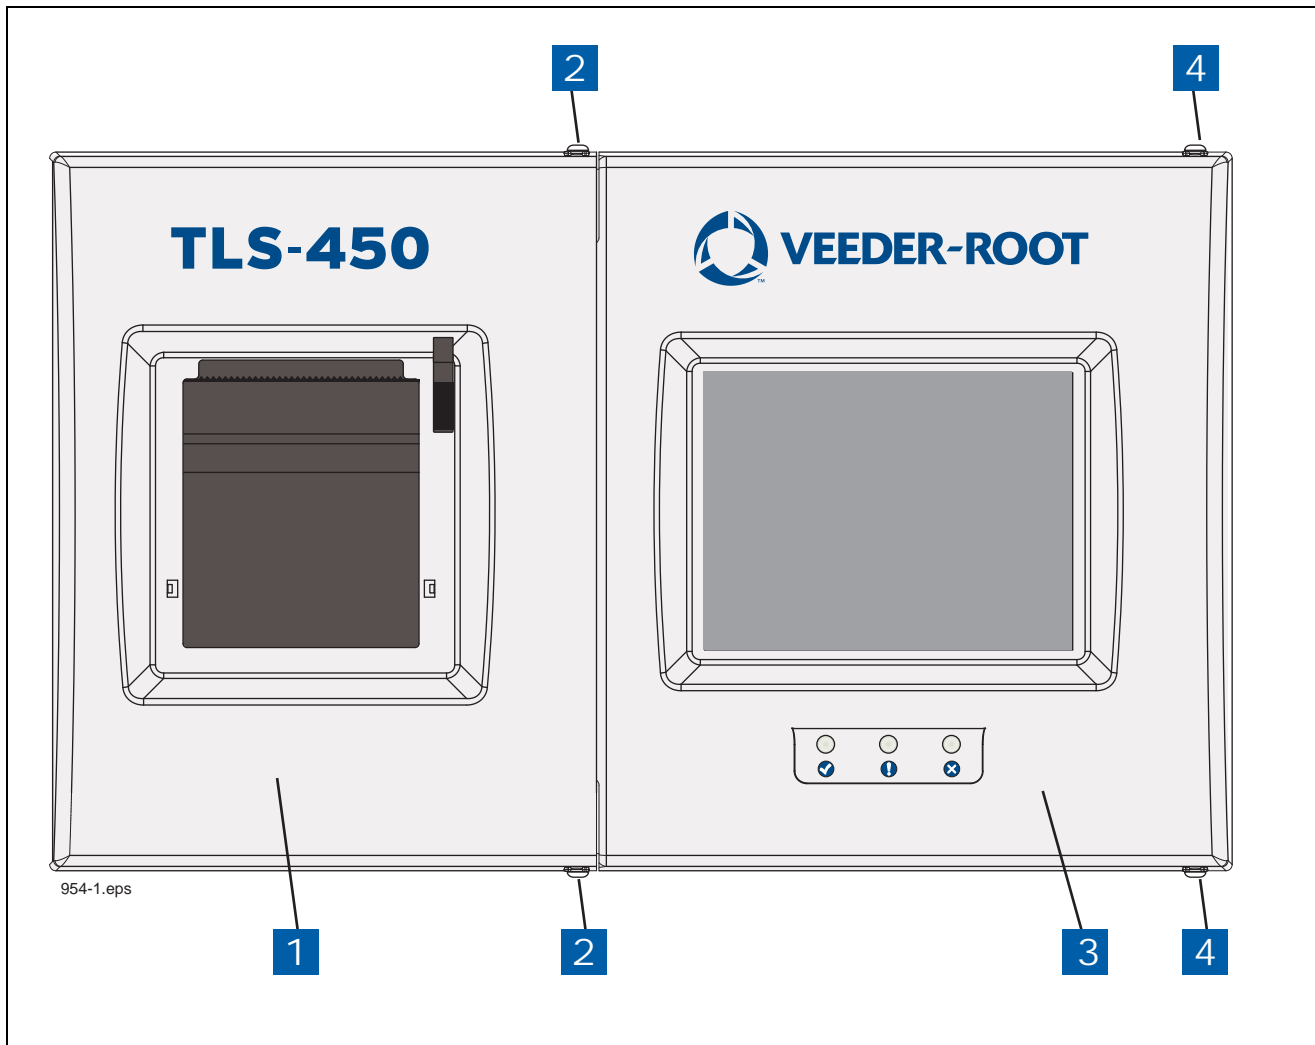

Figure 5. Opening The TLS-450 Console Doors
2. Open both doors to the left (see Figure 5).
LEGEND FOR NUMBERED BOXES IN Figure 5